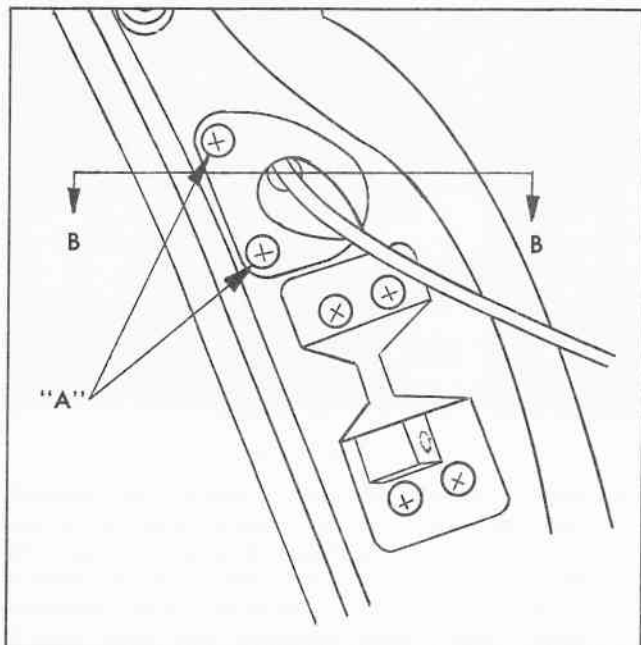

Fig. 5 Tail Gate Cable Support Guide
1. Remove the two screws "A", which secure the tail gate support cable guide, and slide the guide out of the back body opening. See Fig. 5.